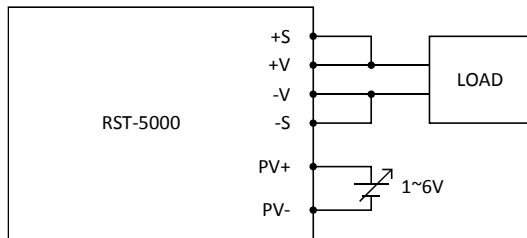

Fig 3.1
(1) Have the DIP switch set as
(2) Connecting an external DC source between PV+ and PV- on CN313 or CN314. +S and +V, as well as -S and -V, also need to be connected as shown in Fig 3.1.